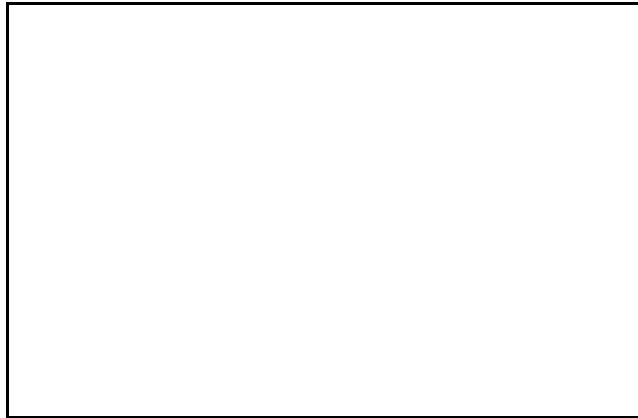

Figure 6-2. Startup Screen
- b. From the startup screen shown in figure 6-2, touch **Configuration** field, then touch **Test**.